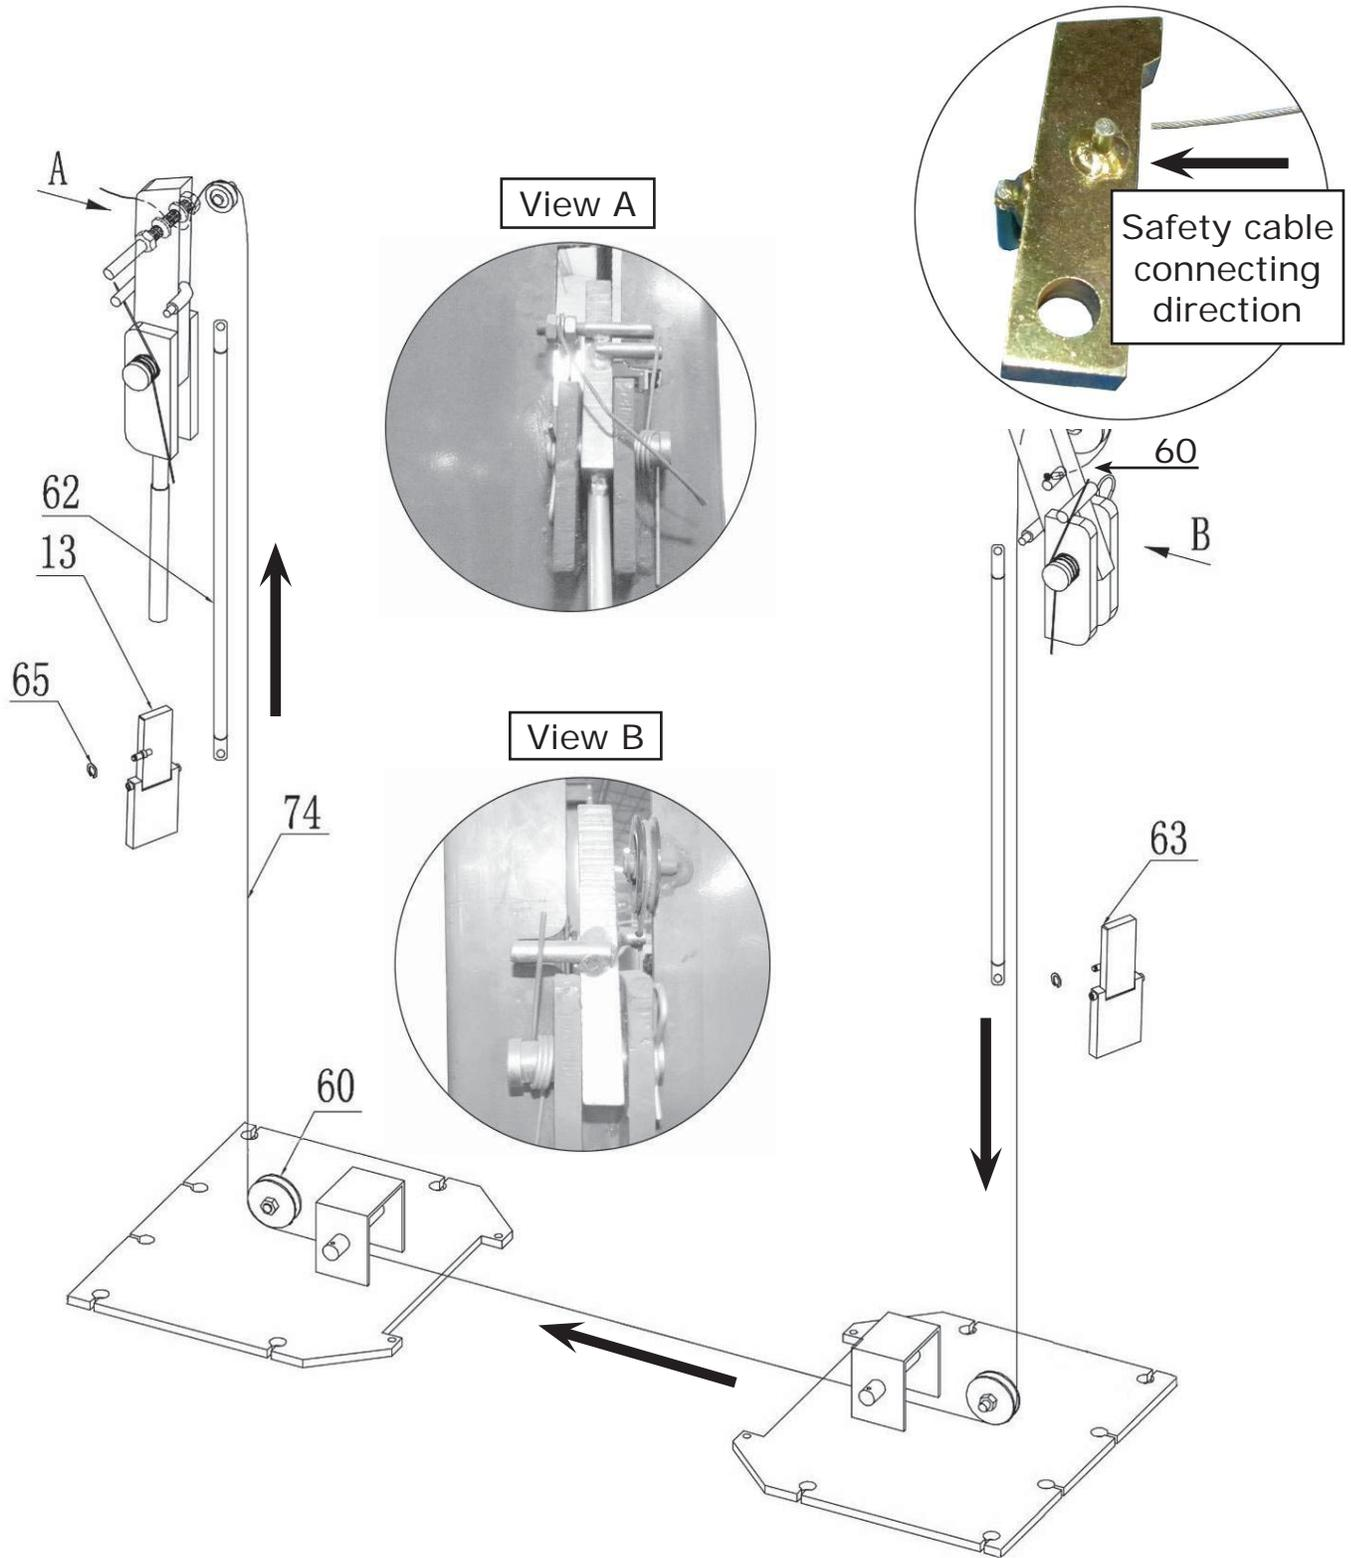

Fig. 28
L. Install safety device and safety cable (See Fig. 28).